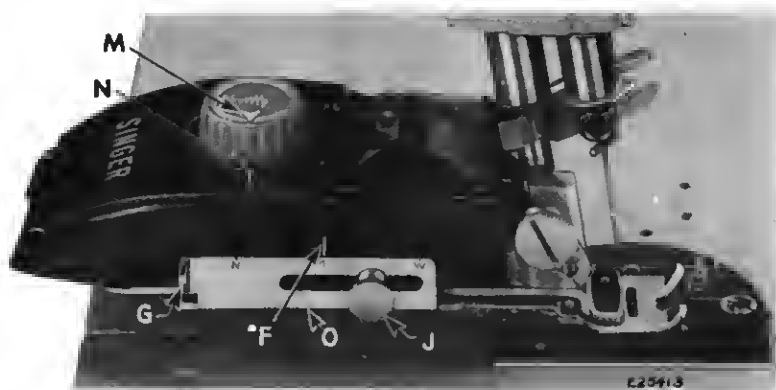

Fig. 9. To Regulate Bight and to Set Stitch Pattern to Start Design
6. Turn stitch pattern so that arrow **M**, **Fig. 9** points to line **N** on top of cover. This setting denotes the beginning of the Zigzag, Domino and Arrowhead patterns and the central position for all other patterns. It also centers the foot for straight stitching.
1. Stop machine when zigzagger foot is in central position with arrow **M**, Fig. 9 opposite line **N**.
Set Stitch Pattern so that arrow **M**, **Fig. 9** is directly opposite line **N** on cover of zigzagger. If, for any reason (such as thread breaking or bobbin running out of thread), it is necessary to start in middle of a design, stitch on a scrap of material until that point in design is reached. Then place work under needle at exact point in design. Continue to stitch.